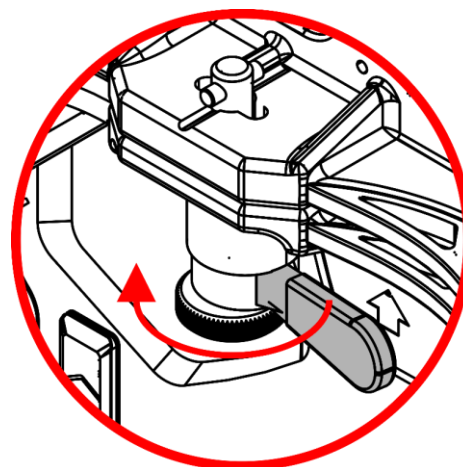

Fig. 27
- 04) Turn the **lever (C)** clockwise to lock the **locking mechanism (03)**, as shown in Fig. 27 and 28.